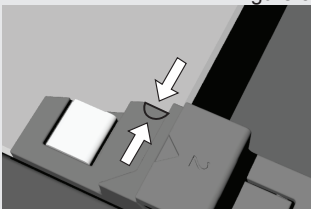

figure 4
**Note: To replace the glass, make sure the markings (crescent) on the door and the glass are aligned (Figure 4).**